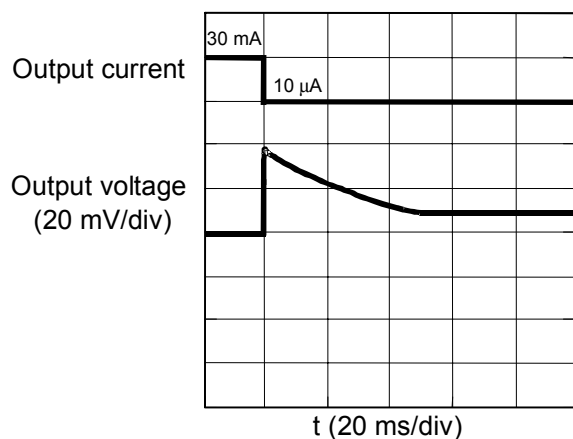

**Figure 19 Ringing Waveform due to Load Variation (VOUT Pin)**
**Figure 19** shows the ringing waveforms at the VOUT pin and **Figure 20** shows the ringing waveforms at the VRO pin due to the load variation, respectively.